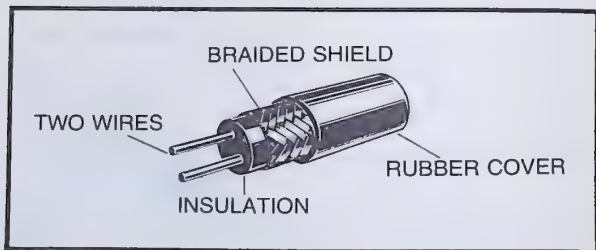

Fig. 13-16. Shielded pair transmission line.
**Shielded Pair.** The shielded pair, shown in Fig. 13-16, consists of parallel conductors separated from each other, and surrounded by, a solid dielectric. The conductors are contained within a copper braid tubing that acts as a shield. The assembly is covered with a rubber or flexible composition coating to protect the line from moisture or mechanical damage. Outwardly, it looks much like the power cord of a washing machine or refrigerator.